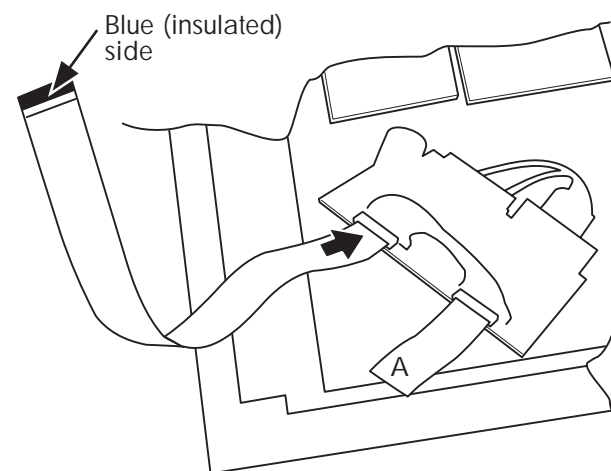

Figure 2.2.1 Fit the option board flexi to the PSU
8. If applicable, fit the option board flexi (figure 2.2.1) to the PSU.
Relay boards must have their address switches set as in figure 2.2.1, below.
4. Fit the option board flexi (figure 2.2.1) to the PSU (shown inverted), with the blue (insulated) side of the flexi facing the circuit board.